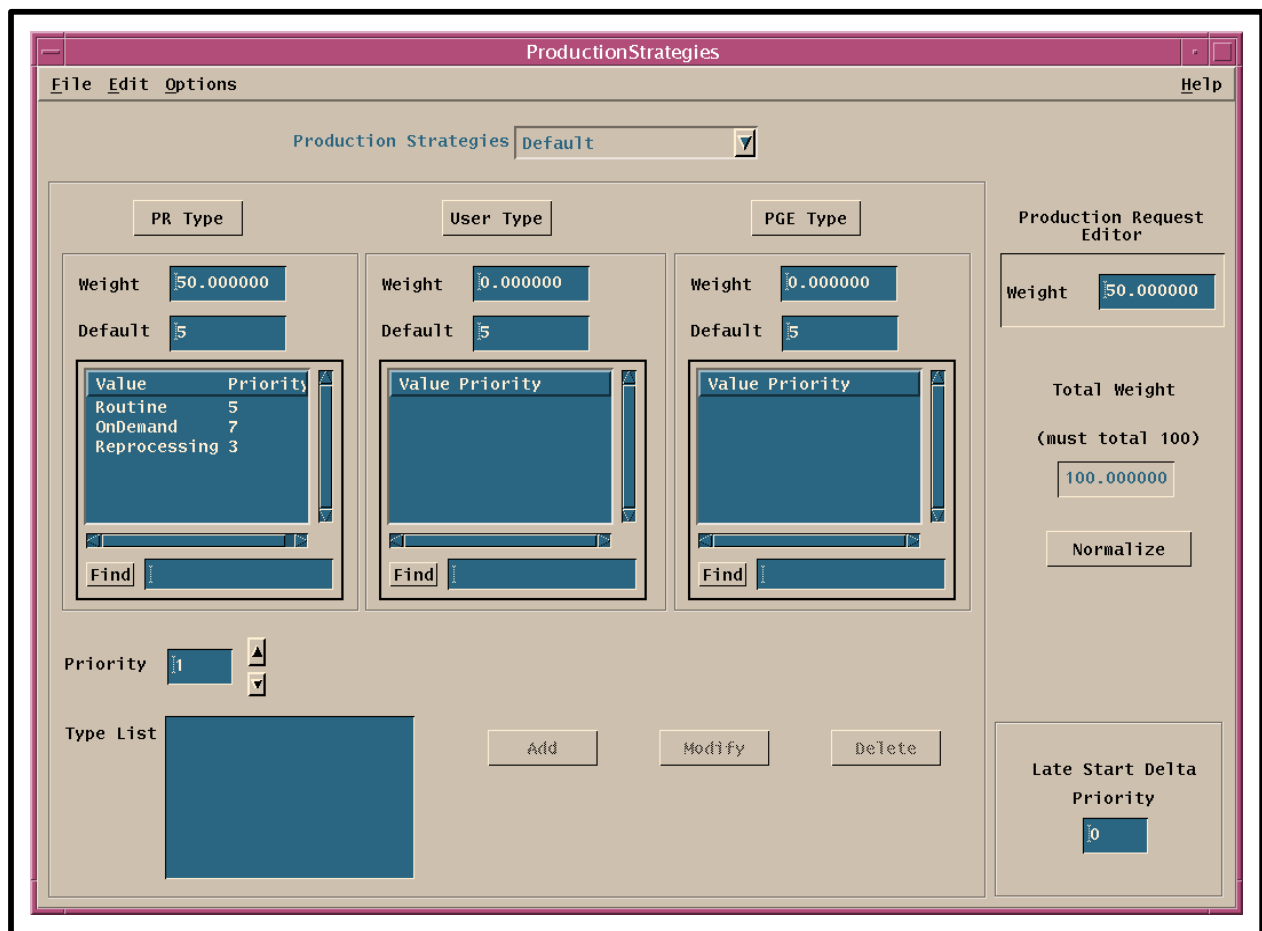

Figure 34. Production Strategies GUI
- The **Production Strategies GUI** (Figure 34) is displayed.
The procedure for defining a production strategy starts with the assumption that all applicable servers are currently running and the **Production Strategies** GUI (Figure 34) is being displayed.